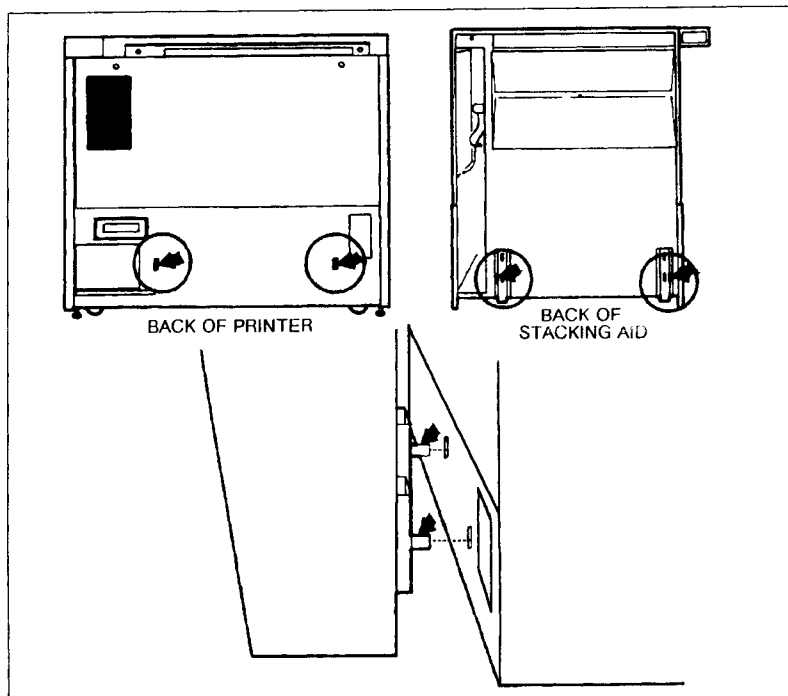

Figure 2-11. Inserting Locating Tabs
- h. Lift up the PPS and slide the locating tabs into the slots in the rear panel (Figure 2-11).